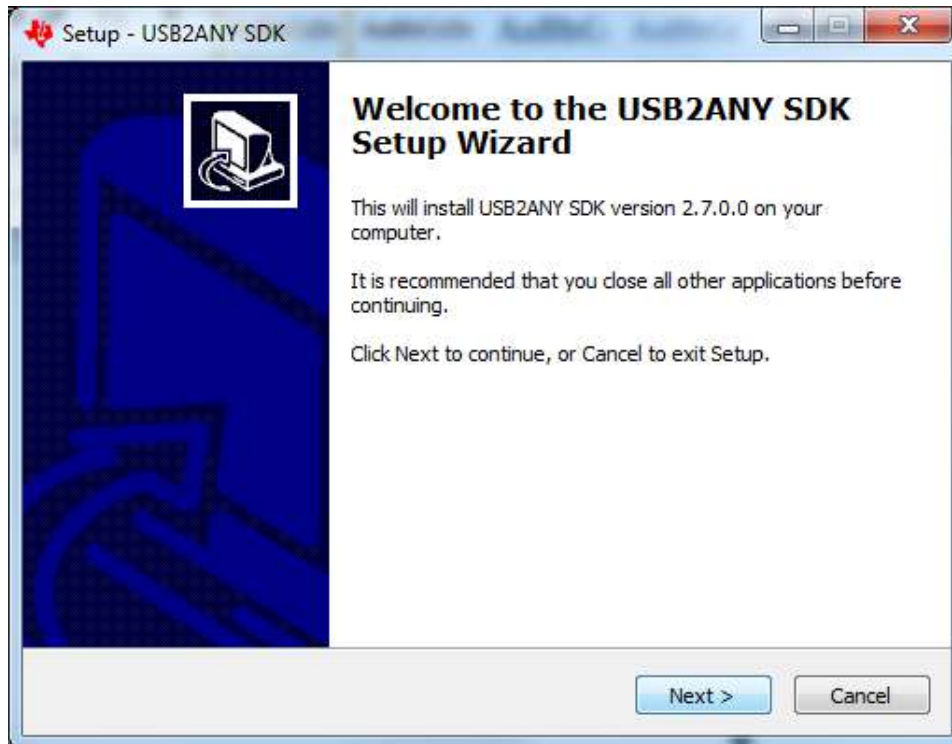

Figure 23. USB2ANY Installation Initialization
- The setup window for the USB2ANY installation is displayed as shown in Figure 23. Click the *Next >* button to proceed with the initialization.